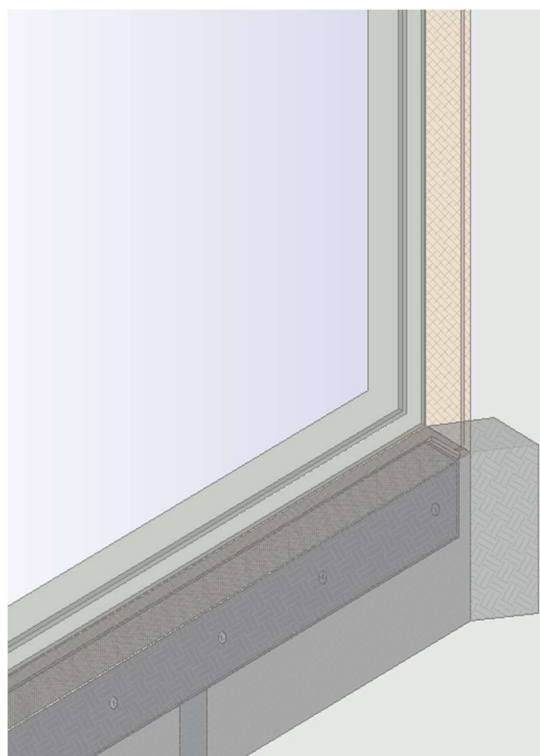

Figure 4
- As you work along the length of the membrane the adhesive will begin to visibly ooze out from under the membrane's edge. When the visible ooze is a uniform 2 - 5 mm wide along the entire run, the adhesive is consolidated (Figure 4).